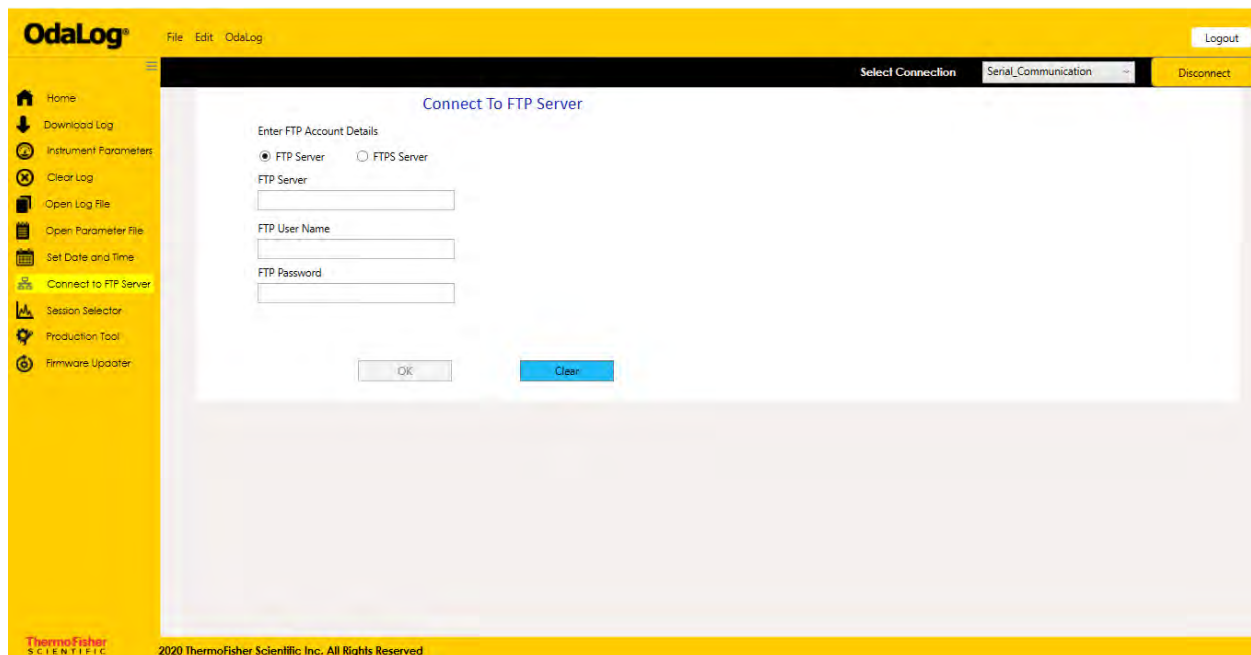

Figure 50. Connect to FTP Server
- Display appears as shown in **Figure 50**.